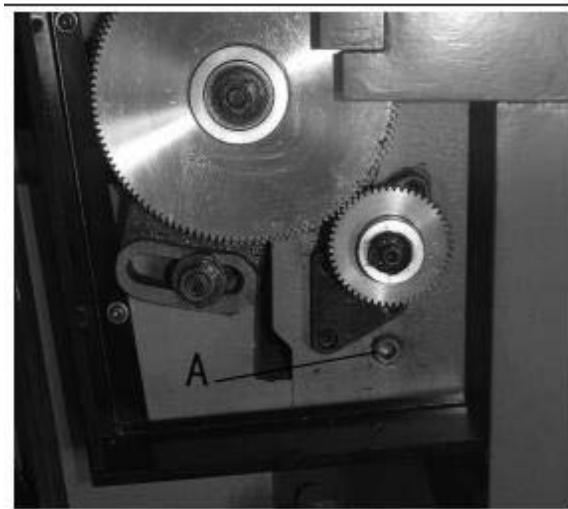

Figure 6
2. **Gearbox** – Oil must be up to indicator mark in oil sight glass (B, Fig. 4). Top off with Mobil DTE® Oil Heavy Medium. Fill by lifting off thread chart cover (E, Fig. 4) and remove plug (C, Fig. 4) with an 8mm hex wrench. To drain, remove drain plug (A, Fig. 6) with an 8mm hex wrench. Drain oil completely and refill after the first month of operation. Then, change oil in the Gearbox annually.